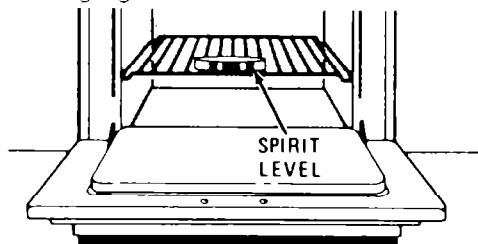

FIGURE 6
- 1. Move the range to its final operating position and check the level of the range by using a small spirit level on the oven rack. See **Figure 6**. The range can be leveled from side to side and front to rear by adjusting the four leveling legs.